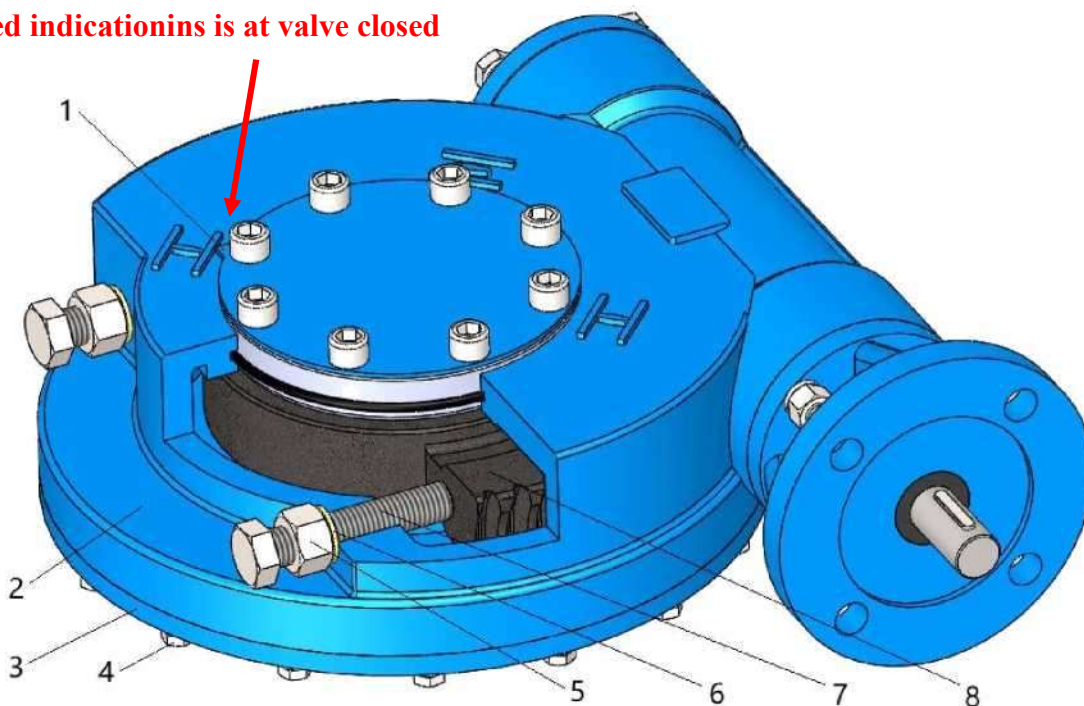

Figure 8 Schematic Diagram of Limit Bolt
The limit and torque switch settings of the actuator should be set according to the recommendations of the actuator manufacturer. Then, limit bolts for opening and closing the gearbox should be set (see Figure 8).
1. Loosen the locking nut (5) in the switch direction, then unscrew the combined sealing gasket (6), and then loosen the limit bolt (7) counterclockwise (backward) by 4-5 turns.
2. Use an appropriate actuator or handwheel to fully close the valve. As shown in Figure 8, use the pointer of the indicator disk (1) as a position indicator.
3. Screw in the limit bolt (7) until it contacts the gearbox worm gear (8). Rotate the limit bolt (7) counterclockwise (backward) one turn, then first screw in the combined sealing gasket (6), and then tighten the lock nut (5) to secure the limit bolt.
4. Loosen the lock nut (5) in the open direction, then unscrew the combined sealing gasket (6) , and then rotate the limit bolt (7) counterclockwise (backward) to loosen it by 4-5 turns.
5. Use an actuator or handwheel to fully open the valve. As shown in Figure 8, use the pointer of the indicator disk (1) as a position indicator.
6. Screw in the limit bolt (7) until it contacts the gearbox worm gear (8). Rotate the limit bolt (7) counterclockwise (backward) one turn, then first screw in the combined sealing gasket (6), and then tighten the lock nut (5) to secure the limit bolt.